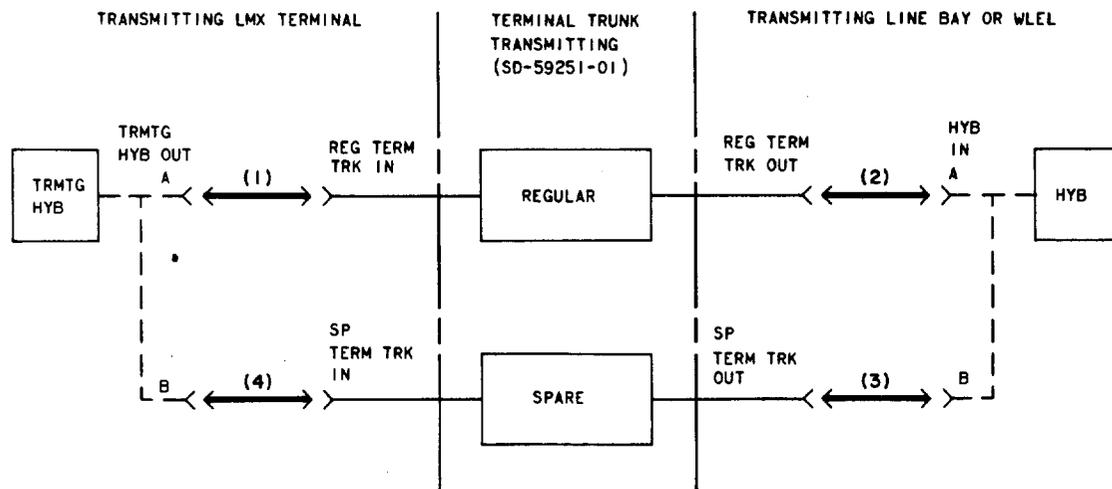

Fig. 3—Restoring Regular Transmitting Trunks to Service—Patching Procedure
Restoring Regular Transmitting Trunks to Service (Fig. 3)
13	At the LMX transmitting HFPB, using a 372A plug (through connection), connect the TRMTG HYB OUT A jack to the REG TERM TRK IN jack (patch (1), Fig. 3).
(a) Using a 372A plug, connect the REG TERM TRK OUT jack to the HYB IN A jack [patch (2), Fig. 3].
(b) Remove the 372A plug from the SP TERM TRK OUT and HYB IN B jacks [patch (3), Fig. 3].
17	At the LMX transmitting HFPB, remove the 372A plug from the TRMTG HYB OUT B and SP TERM TRK IN jacks [patch (4), Fig. 3].